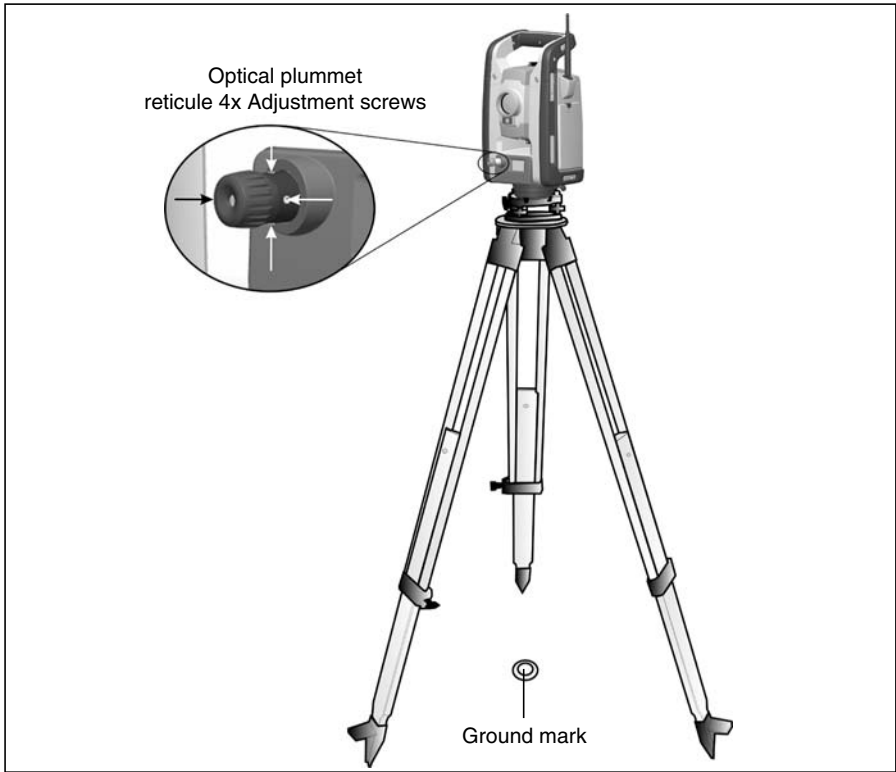

Figure 4.34 Optical plummet adjustment
1. Set up the instrument and level it over a ground mark so that the tripod height is 1.5 m (± 0.1 m) (4.920 ft. (± 0.328 ft.)) as shown in Figure 4.34